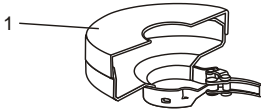

Fig. 2A
▲ WARNING: The metal cutting disc guard (Fig. 2A on Page 15) MUST be installed whenever a metal cutting disc is installed on the tool.
The metal cutting disc guard included with this tool is the same as the grinding disc guard with one exception. It has an additional “web” (1) on the bottom of the guard to protect the operator from sparks generated when cutting metal (Fig. 2A on Page 15).